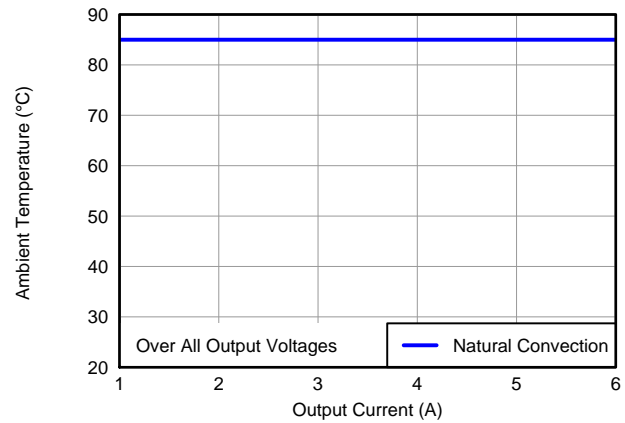

Figure 10. Safe Operating Area
- (2) The temperature derating curves represent the conditions at which internal components are at or below the manufacturer's maximum operating temperatures. Derating limits apply to devices soldered directly to a 100 mm × 100 mm double-sided PCB with 1 oz. copper. Applies to Figure 10.